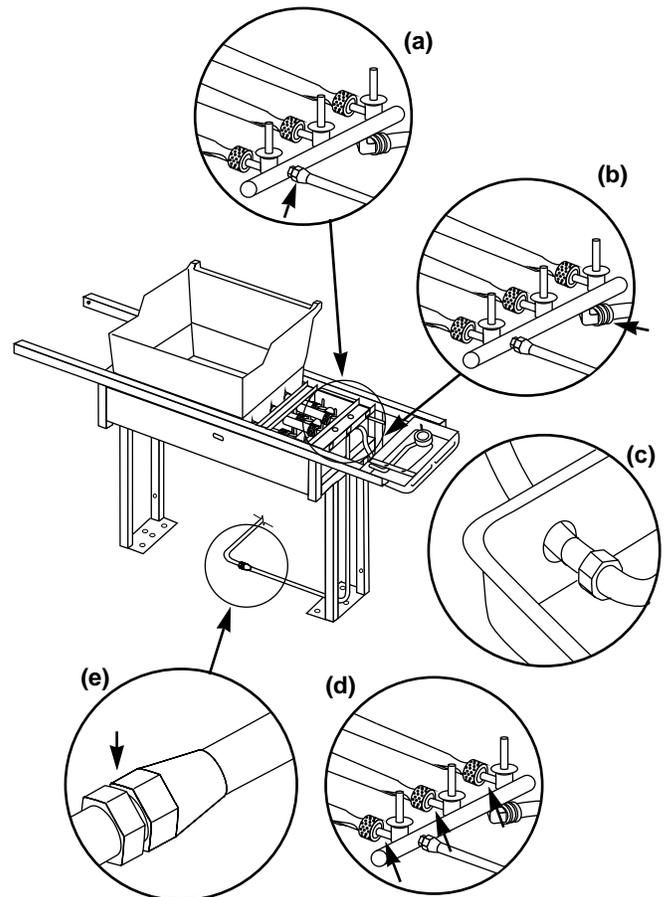

Figure 24
- Gas supply line to manifold connection. Figure 24 (a).
- Manifold to side burner hose connection. Figure 24 (b).
- Side burner hose to side burner connection. Figure 24 (c).
- Valves to manifold connections. Figure 24 (d).
- Barbecue gas supply line to natural gas supply connection. Figure 24 (e).